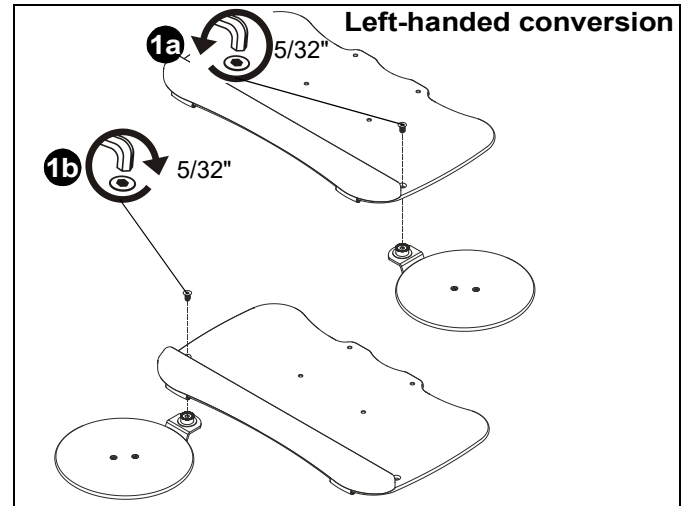

Figure 3
1. Mouse arm position may be adjusted as desired or moved the opposite side for left-handed users. (See Figure 3)